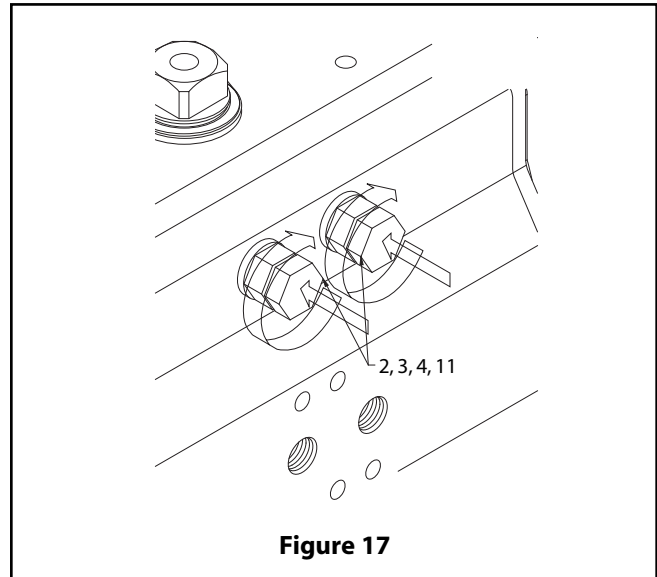

**Figure 16**
- B. Apply silicone grease to the end-cap o-ring seals, using the recommended o-ring-area grease listed in **(Table 2)**. Fit the end-cap o-ring seals (14) into the groove in each end cap (30, 31).
- C. Fit the end caps (30, 31) onto the body (50), verifying that the o-ring seals (14) remain in the grooves.
- D. Insert all end-cap screws (13) and hand tighten. Complete tightening by following the sequence indicated in **(Figure 16)**.